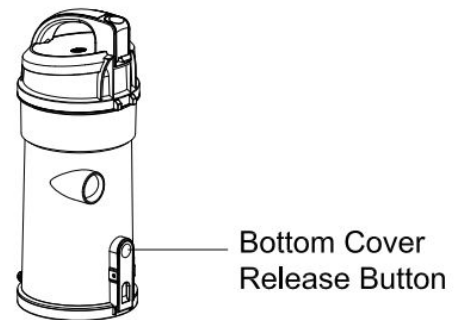

Fig 11
5. Press the release button. When the release button is pressed, the bottom cover will open and the dust will drop into your trash receptacle. (Fig 11)